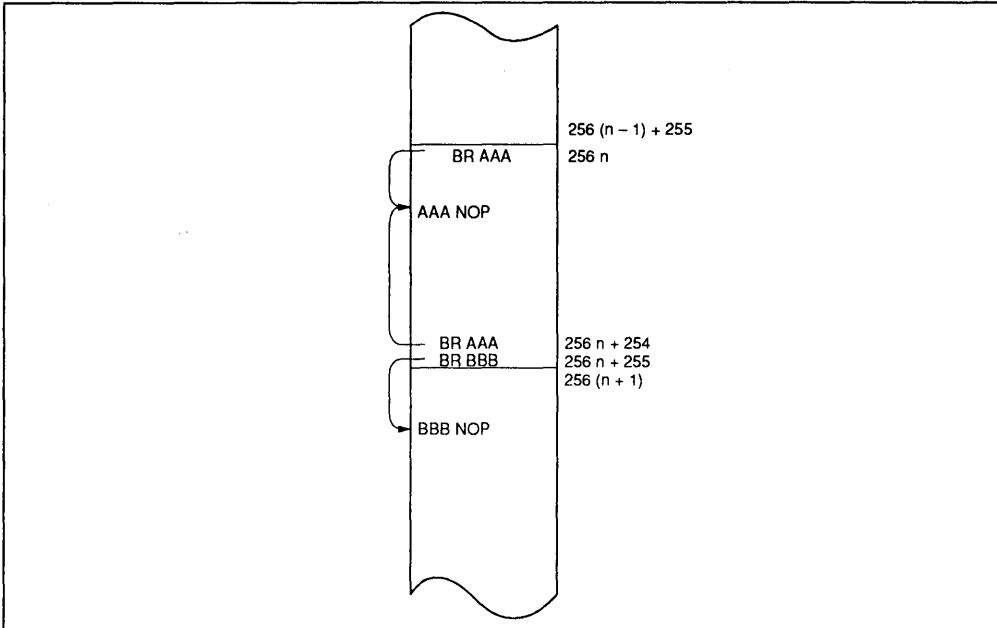

Figure 48 Branching when Branch Destination is on Page Boundary
**Current Page Addressing Mode:** The MCU has 32 pages of ROM with 256 words per page. A program can branch to any address in the current page by executing the BR instruction. This instruction replaces the eight low-order bits of the program counter (PC7–PC0) with eight-bit immediate data. If the BR instruction is on a page boundary (address 256n + 255), executing that instruction transfers the PC contents to the next physical page, as shown in figure 48. This means that the execution of a BR instruction on a page boundary will make the program branch to the next page.